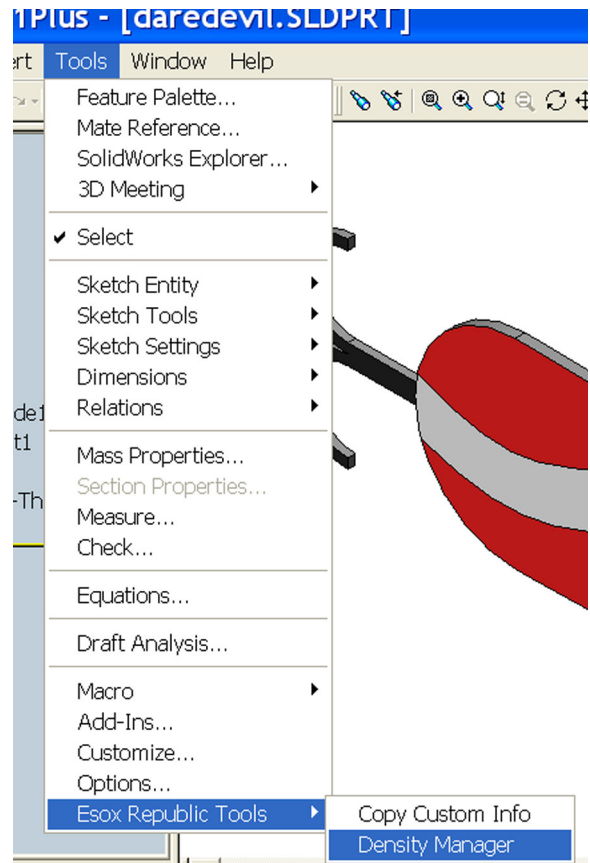

Figure 1
*Density Manager* is a SolidWorks addin that, once installed, is available through the SolidWorks menu under *Tools --> Esox Republic Tools --> Density Manager*. see **Figure 1**